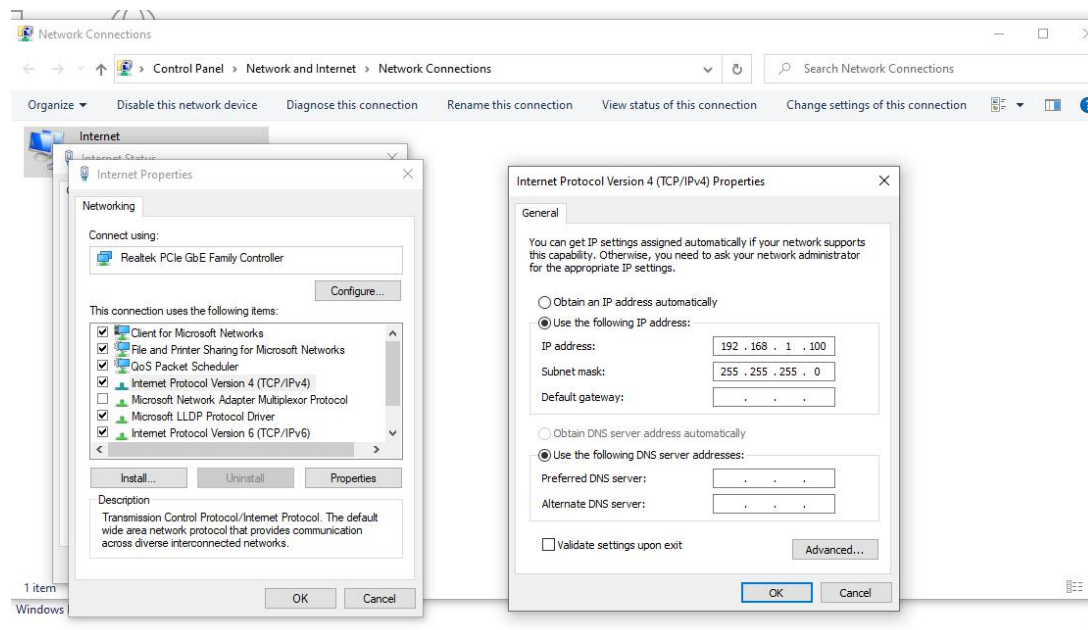

Figure 3-19 Protocol version 4
Step 3 Click Attributes and change Protocol Version 4 to the parameters shown in Figure 3-19: